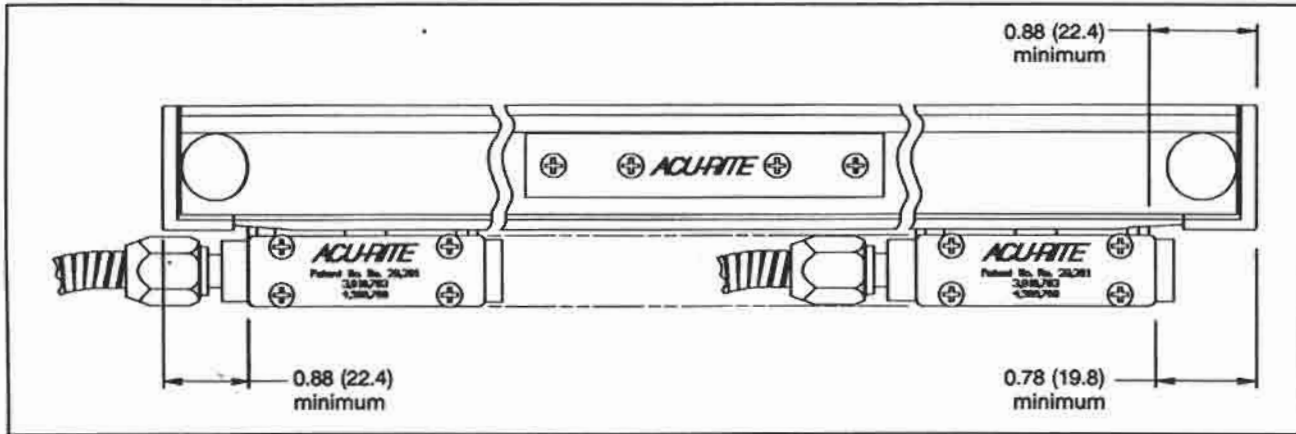

Figure 2-1. Maximum travel limits
- Encoder travel (Figures 2-1, 2-8 and Table 2-1) must be at least as great as the machine travel. **The reading head will be damaged if machine movements allow the head to contact the internally-installed end mounting screws or endcaps.** If the encoder provides less travel than the machine is capable of, hard stops must be installed to limit the machine movement.